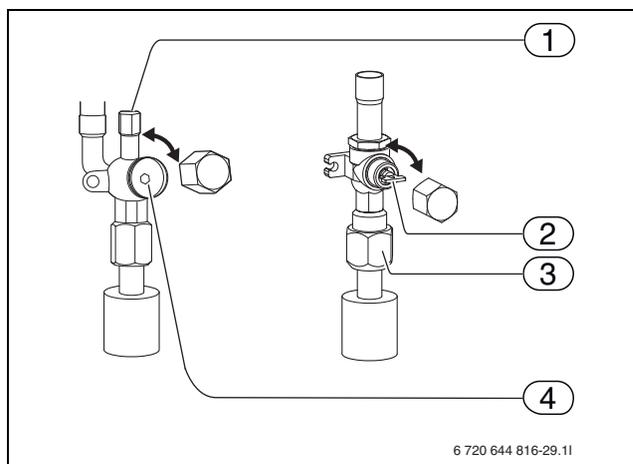

Fig. 22 Shut-off valves
- ▶ Connect the pressure gauge and gas tank (oxygen free nitrogen) to the service outlet on the liquid shut-off valve (→ [1], fig. 22).
- ▶ Connect the vacuum pump to the service connection on the liquid line shut off valve (→ [1], fig. 22).
- ▶ Open the shut-off valve by turning the screw (→ [2], fig. 22) as far as it will go using a 5 mm socket wrench (7.5 kW), or by turning the handle (10–12 kW).
- ▶ Remove the cover and open the shut-off valve (→ [3], fig. 22) by turning it anticlockwise as far as it will go using a 4 mm socket wrench. Stop turning as soon as you reach the stop.